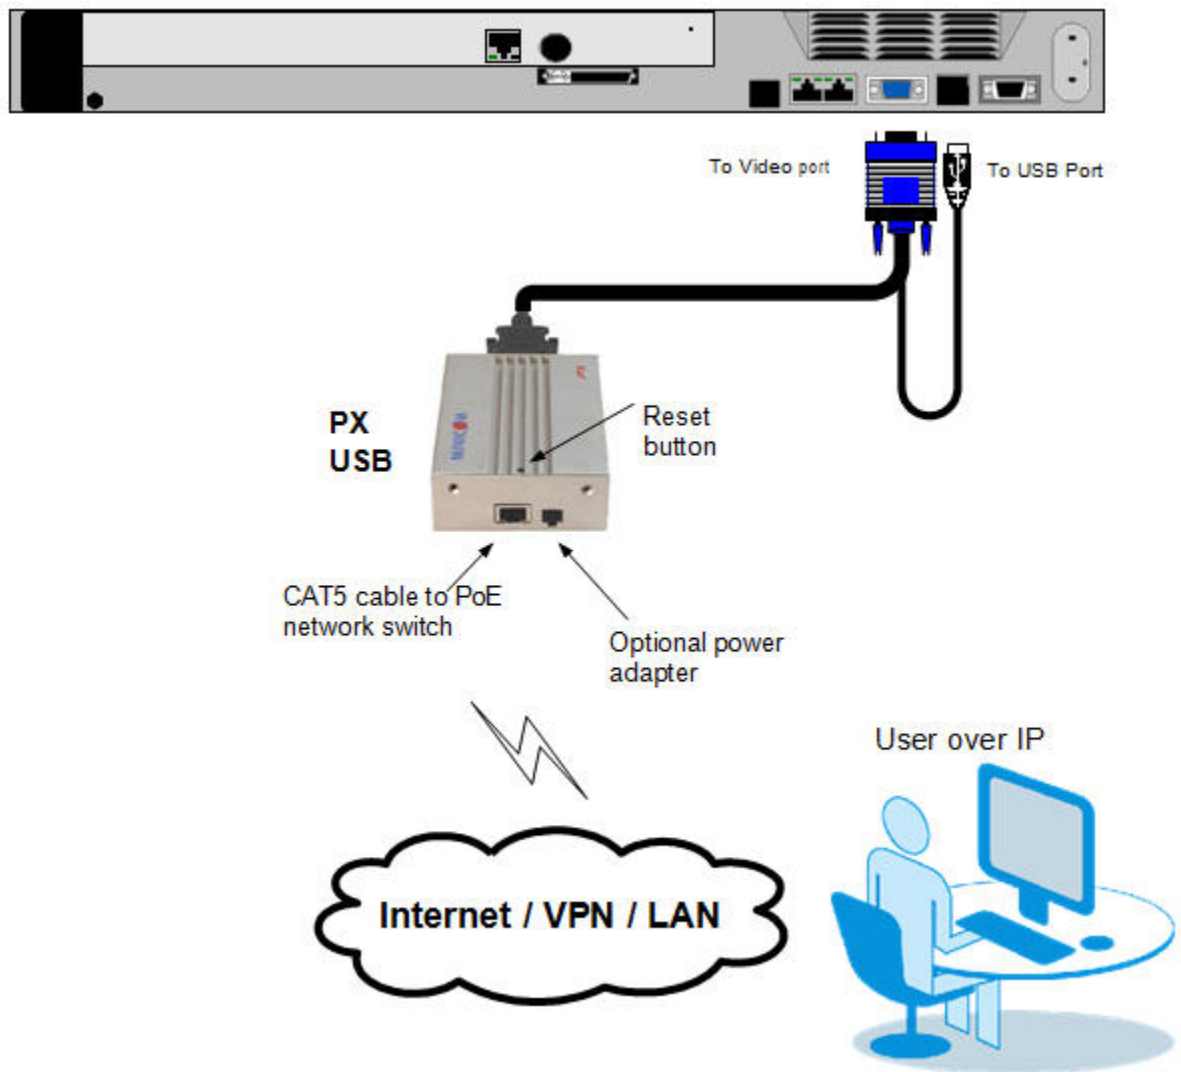

Figure 6 – PX Connections
2. Connect the USB and Video connectors of the USB/Video cable to the relevant ports of the target server (see Figure 6). For a connection to a PS/2 type computer, use the PS/2 cable p/n 5CB00611 (ordered separately), and connect the Keyboard, Video, and Mouse (KVM) connectors to the KVM ports of the target server.